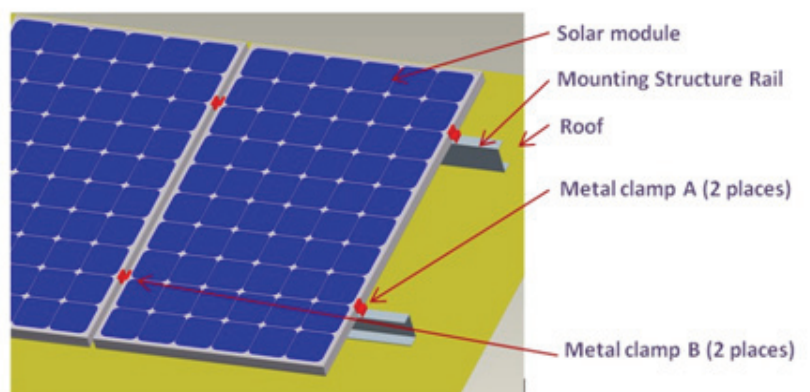

Fig 2.2
- Modules must be mounted at 4 symmetrical quarter points by the means showed in Fig. 2.2 & Fig. 2.3.